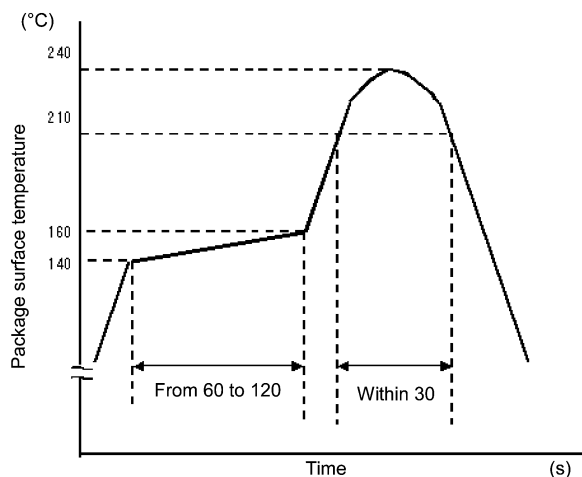

Fig. 12.1.1 An Example of a Temperature Profile When Sn-Pb Eutectic Solder Is Used
- When using soldering reflow (See Fig. 12.1.1 to 12.1.3)